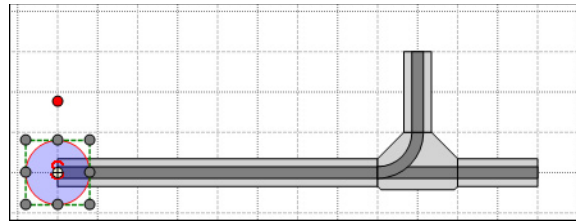

Figure 3-17: Node Placed and Selected to Start Automatic Node Placement
- B. Select the node (see the simplified representation in Figure 3-17).